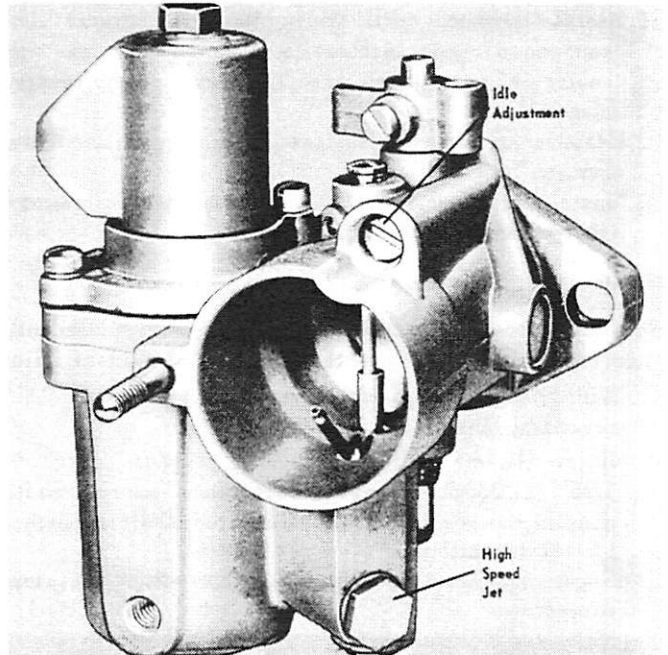

Figure 5. High Speed Jet and Idle Adjustment
Carburetors have fixed high speed jets. Standard jet, installed at factory, is recommended for operation from sea level to 4000 ft. (1219.2m) elevation. (Figure 5)
2. Start with all idle needles one turn open and adjust for maximum RPM with magneto retarded to give about 600-700 RPM. (Figure 5)
4. With engine running at idling speed while in forward gear, turn low speed mixture adjusting needle counterclockwise until affected cylinders start to "load up" or fire unevenly due to overrich mixture. (Figure 5)